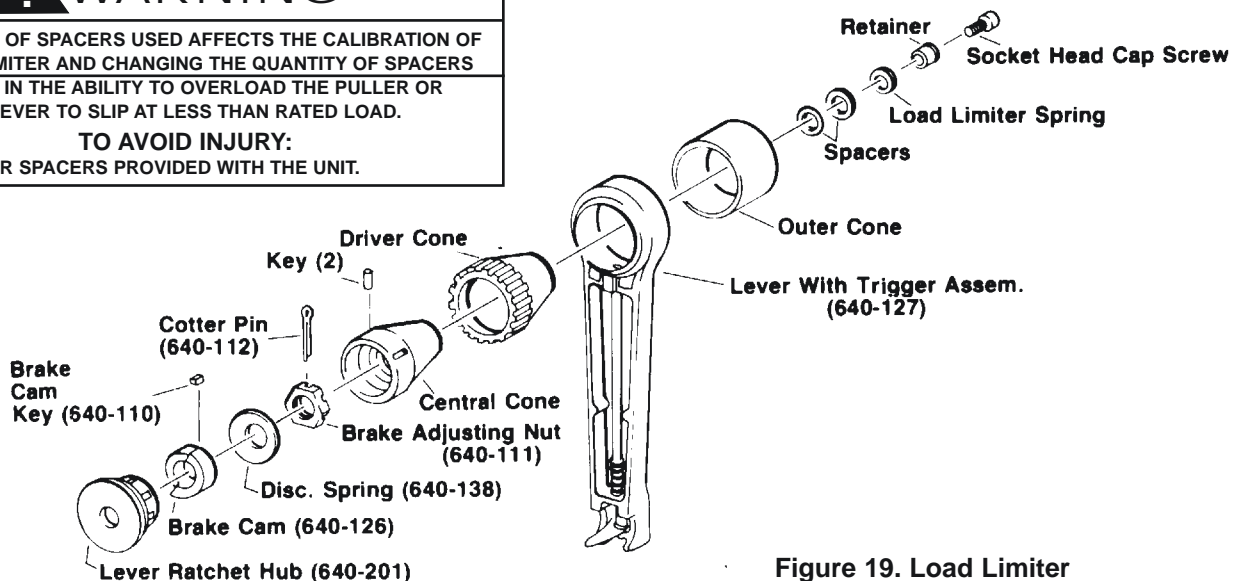

Figure 19. Load Limiter
**Follow all the instructions and warnings per pages 3 thru 10 when installing, operating, inspecting and maintaining the Puller equipped with the Load Limiter. When disassembling and reassembling the Load Limiter, refer to Figure 19 and observe the following:**